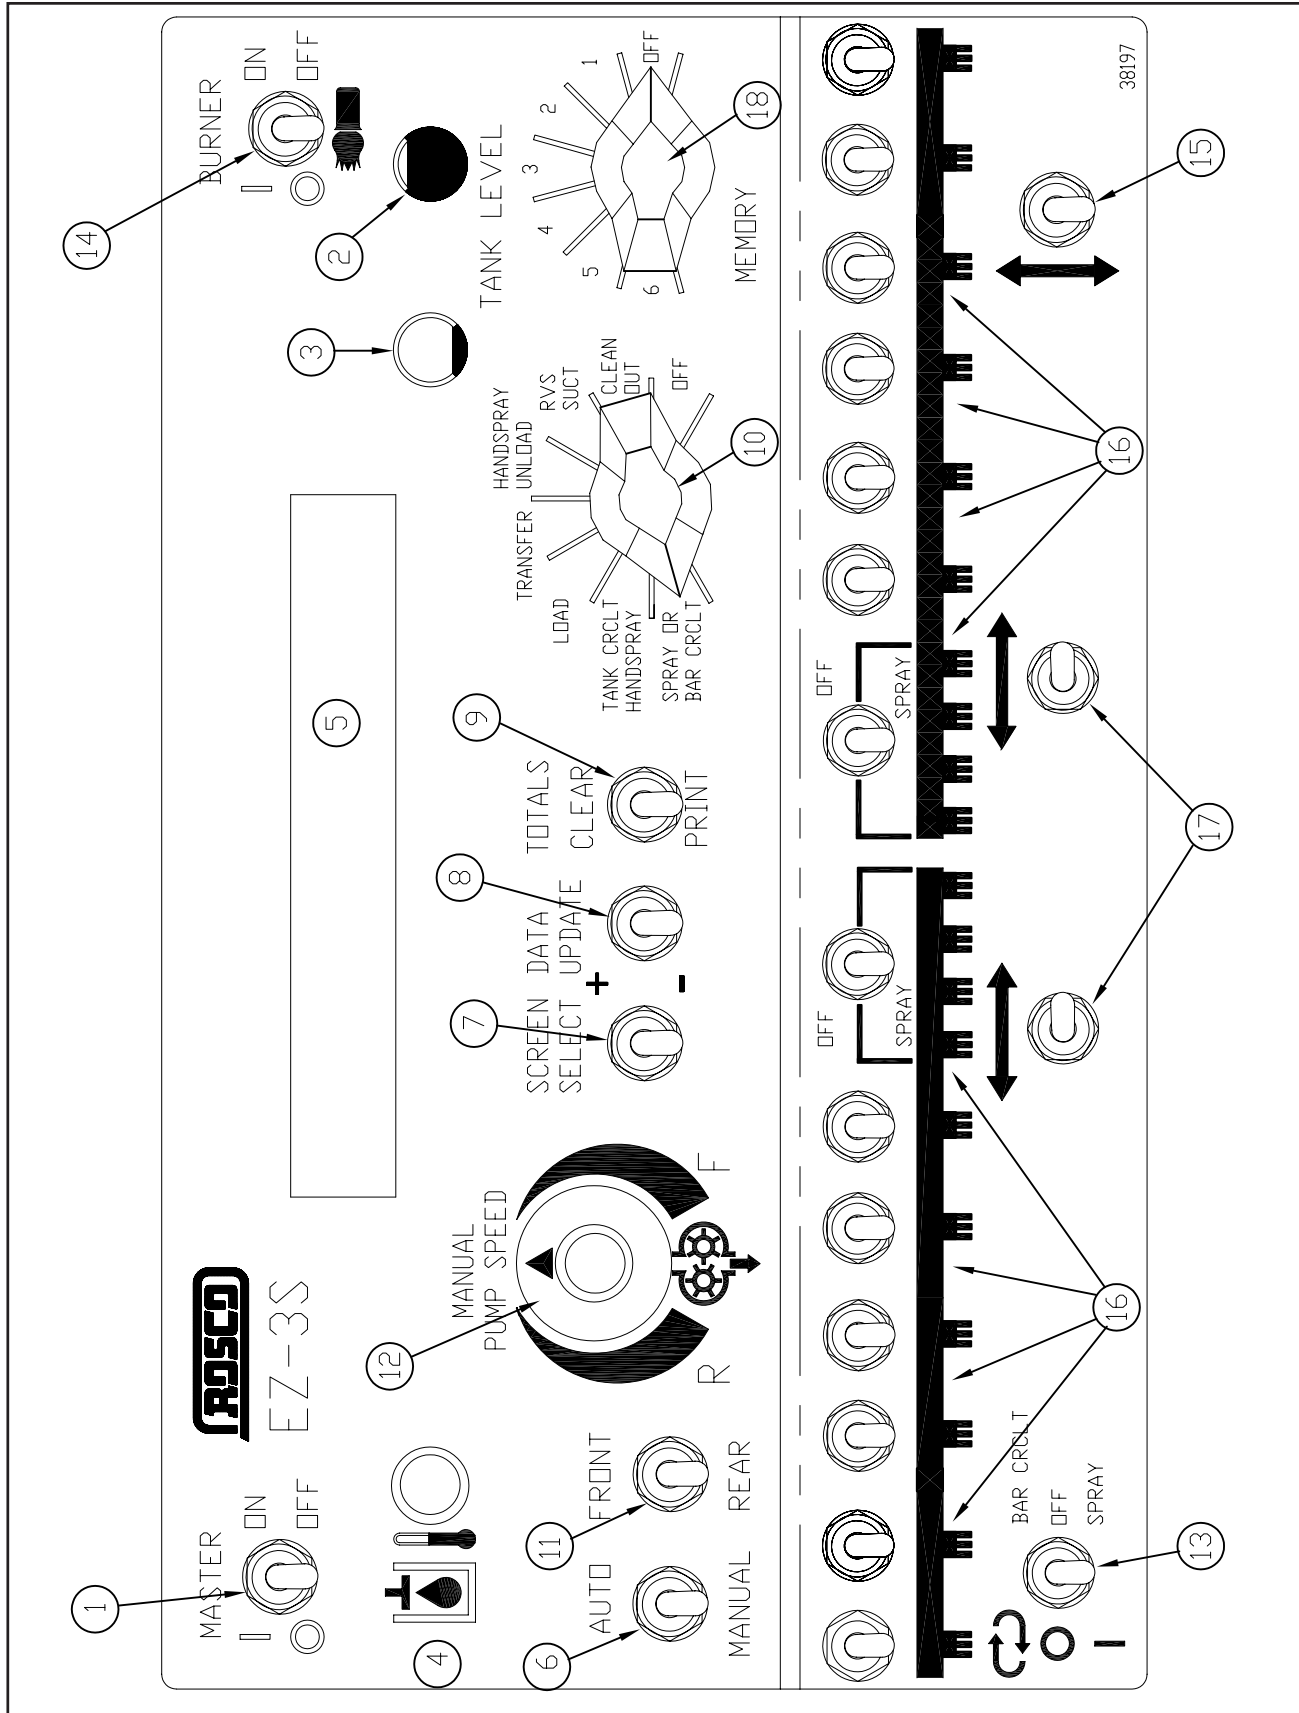
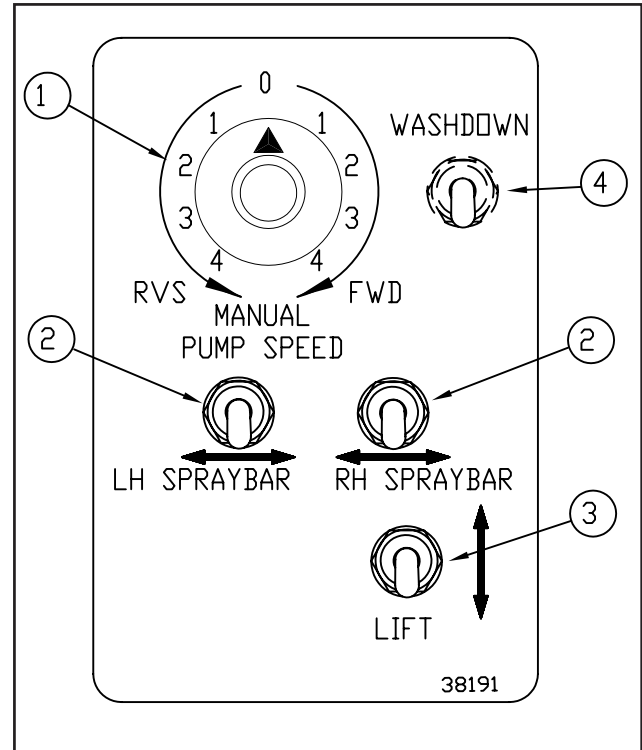

FIGURE 2-2. EZ-3S CONTROLLER
FIGURE 2-3. REAR CONTROLLER
(See Figure 2-2)
11. FRONT/REAR SWITCH: Determines which Manual Pump Speed controller is activated. With the switch at FRONT, the Front Controller determines the speed and direction the asphalt pump will rotate. With the switch at REAR, the Rear Controller (Figure 2-3), located in the tool box at the back of the Maximizer, controls the speed and direction of the asphalt pump.
The Rear Controller (Figure 2-3) is used to change pump speed, pump direction and to control the spraybar position from the back of the Maximizer. The Auto/Manual switch (Figure 2-2, Item 6) must be at MANUAL and the Front/Rear switch (Figure 2-2, Item 11) must be set to REAR.